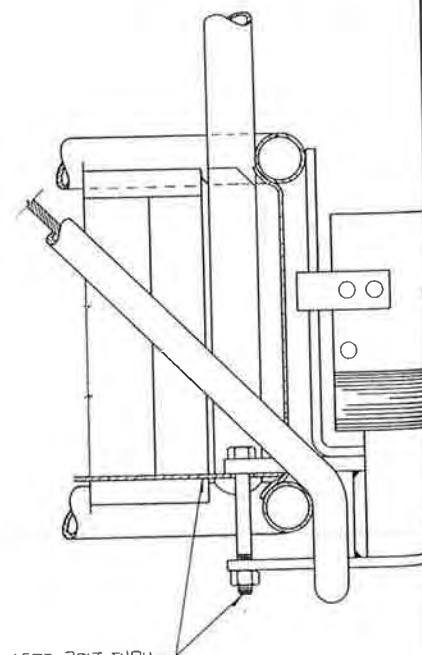

Figure 21
2. When attaching one fly deck only to a Spider swing stage assembly, it is necessary to utilize the extra piece of wire rope that has the piece of rubber hose on it. This piece goes under the platform attachment fingers and up through the hole provided in the toeboard of the Spider (Fig. 21)